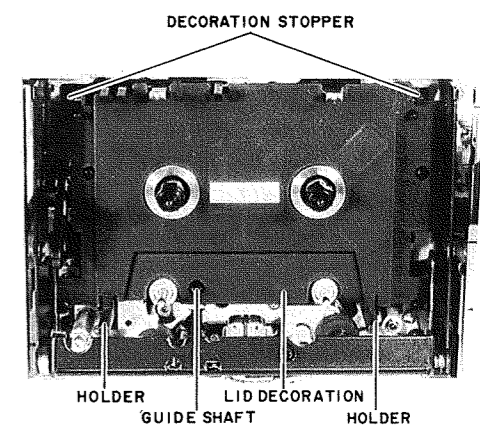

Fig. 3-3
- 5) Next, while pressing up slightly on the decoration stopper on the upper right and left sides, move the lid decoration forward and down, disengaging it from the holders and guide shafts on the bottom left and right. (Refer to Fig. 3-3.)